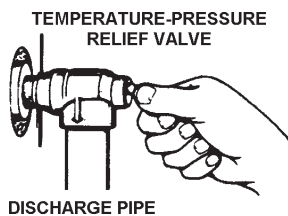

FIGURE 55.
When checking the temperature-pressure relief valve operation, make sure that (1) no one is in front of or around the outlet of the temperature-pressure relief valve discharge line, and (2) that the water discharge will not cause any property damage, as the water may be extremely hot, see Figure 55.